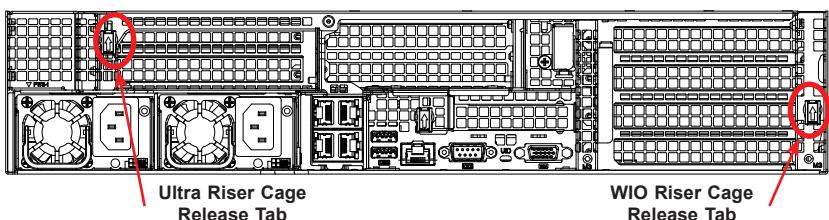

Figure 6-9. Riser Cage Release Tabs
2. Remove the Ultra riser bracket or WIO riser bracket by flipping up its riser cage release tab as pictured in Figures 6-9.